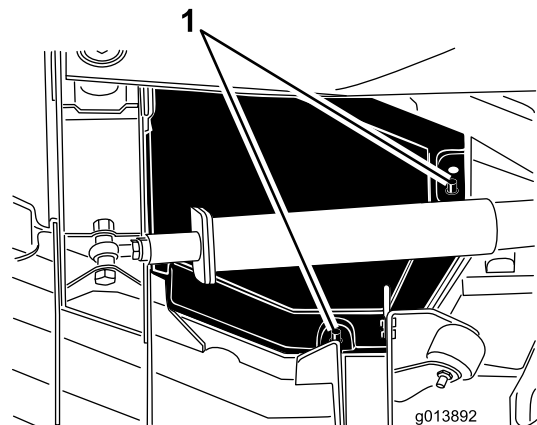

Figure 47
4. Lift the rear and inside cover edges off the mounting posts (Figure 47).